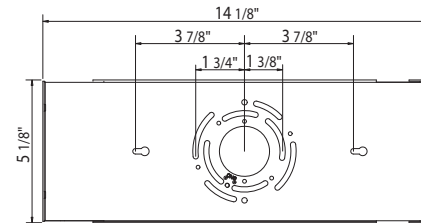

Fig. 2 Wiring
CONNECTING THE WIRES (Fig. 2)
6. Connect the driver's input wires to junction box wires as shown in Fig. 2, making sure that all wire connectors (A) are secured. If your outlet box has a green or bare copper ground wire, connect the fixture's ground wire to it. Otherwise, connect the fixture's ground wire directly to the back plate using the GND screw provided. After wires are connected, tuck them carefully inside the junction box.